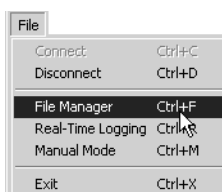

Figura 4-9. File->Manager
2. Haga clic en **File->File Manager** (Figura 4-9).